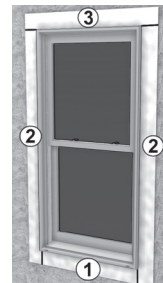

Figure 4
- (Recommended)** Following the flashing manufacturers' recommendations, apply flashing to the nail fins and surrounding wall surface starting with the bottom, then the sides, and finally the top, creating a shingle effect (reference **Figure 4**). **! NOTE: Where pan flashing is present, do not use flashing that will impede proper drainage of the pan on the bottom.**